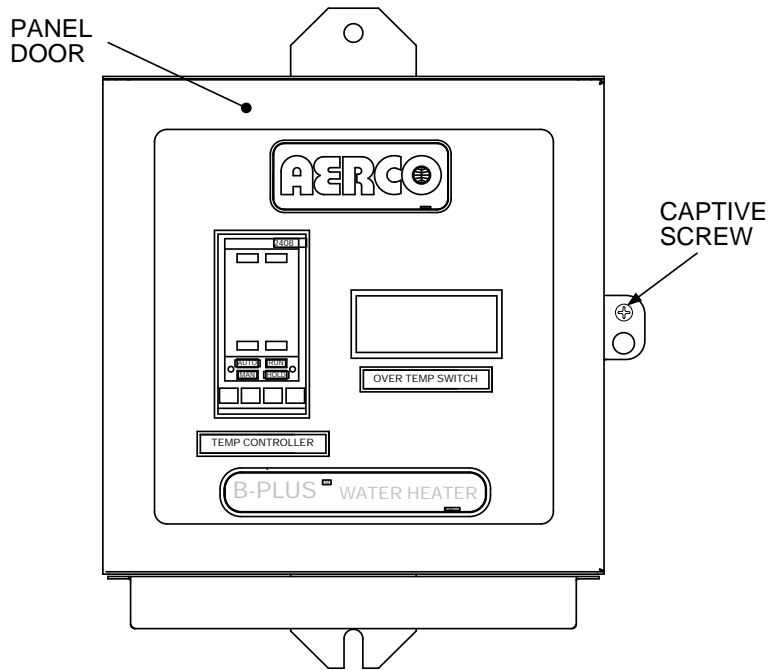

Figure 2-3. ECS Control Panel Front View
- 1) Loosen the captive screw on the right-front portion of the Control Box (Figure 2-3) to open the hinged panel door.